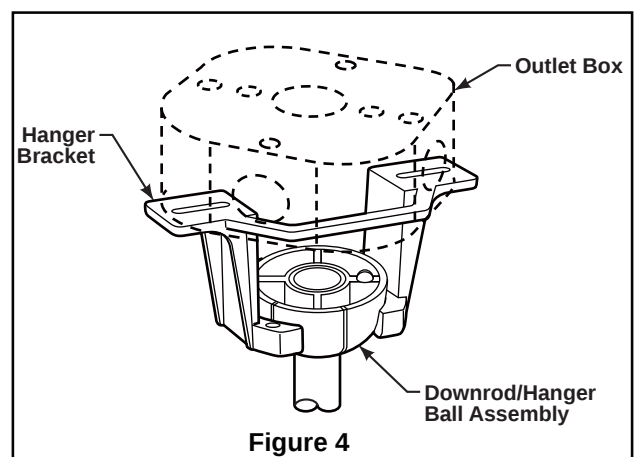

Figure 4
- ☐ **4.** Thread downrod into the downrod support on top of the motor. Install the clevis pin by aligning the holes in the downrod support with holes in the downrod. Secure clevis pin with hairpin clip. Tighten the two set screws with nuts in the downrod support. (Figure 4)
2. Carefully lift the fan and seat the downrod/hanger ball assembly on the hanger bracket that was just attached to the outlet box. Be sure the groove in the ball is lined up with tab on the hanger bracket. (Figure 4)
- ☐ 4. Assemble the LED assembly to the light kit assembly use the removed screws in Step 2. (Figure 4)
Setting Process : (Figure 4)